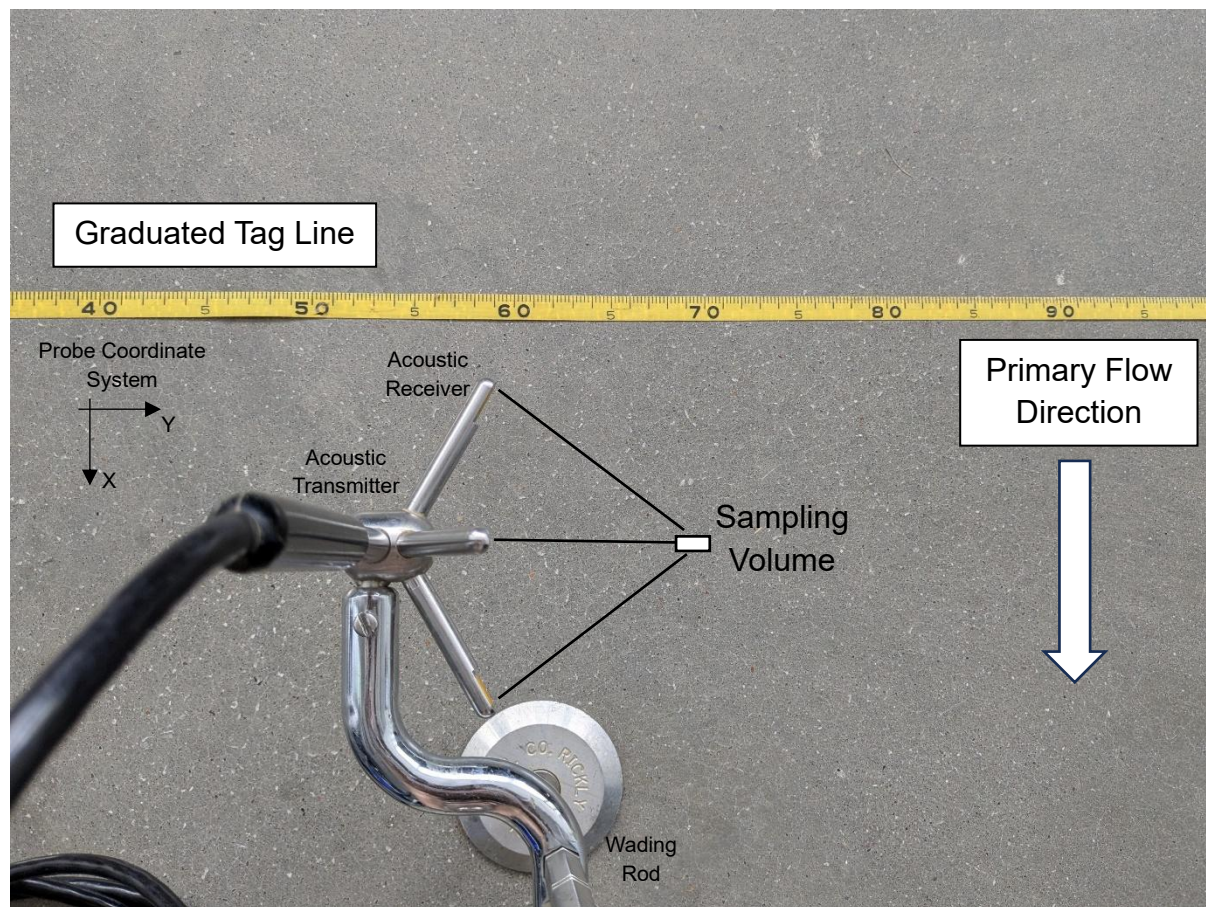

Figure 1. Velocimeter placement in relationship to flow direction and tapeline.
4. After cross sections are divided into stations and field diagnostics have been performed, place the X-axis of the velocimeter perpendicular to the tape line (Figure 1).